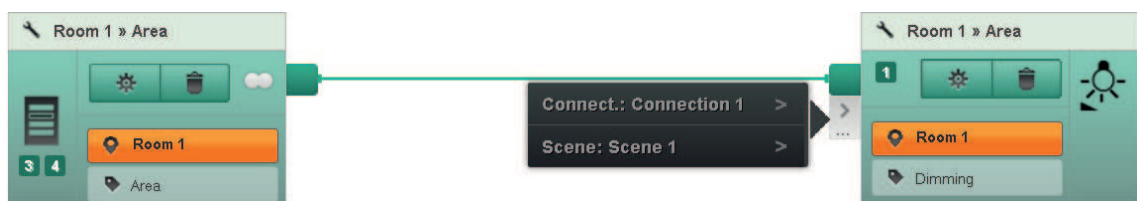

Figure 48: Navigation to other plans
- Select the  button in the tile (Figure 48).